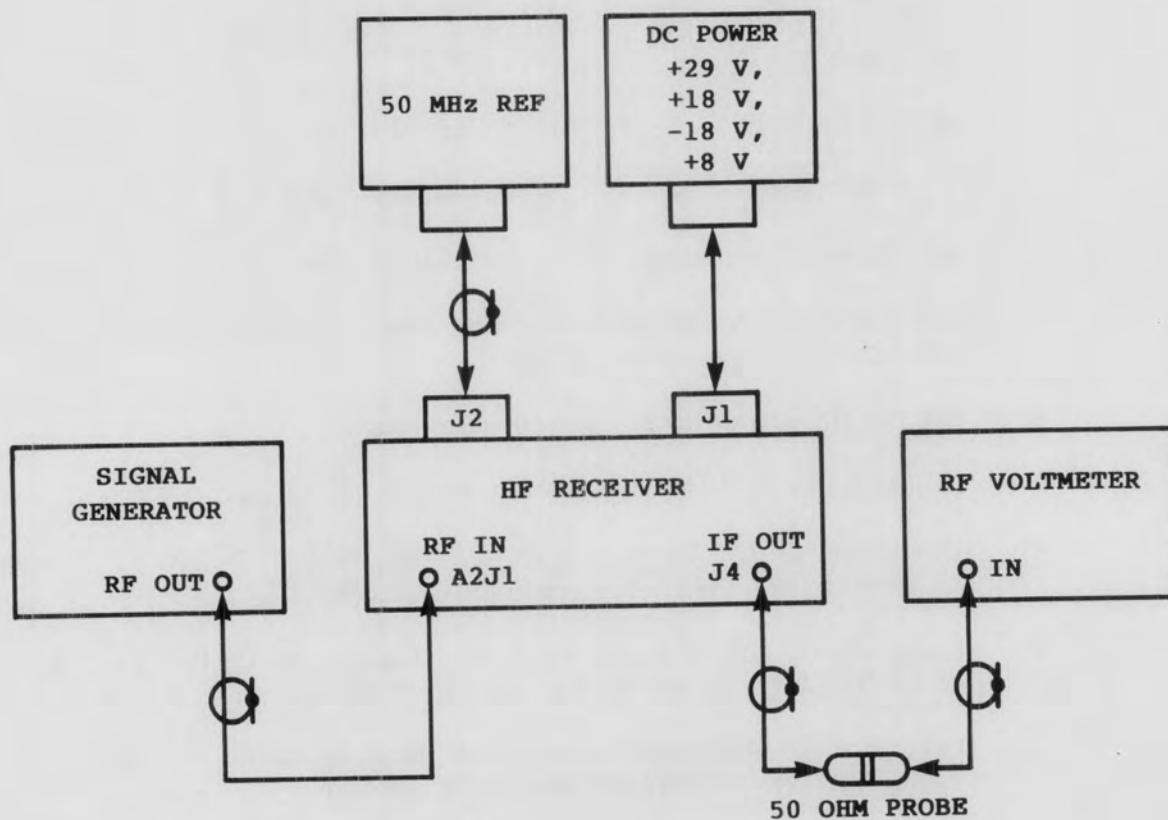

Figure 4-7. IF Gain Adjustment Equipment Setup
1. Connect the receiver as shown in **Figure 4-7**.